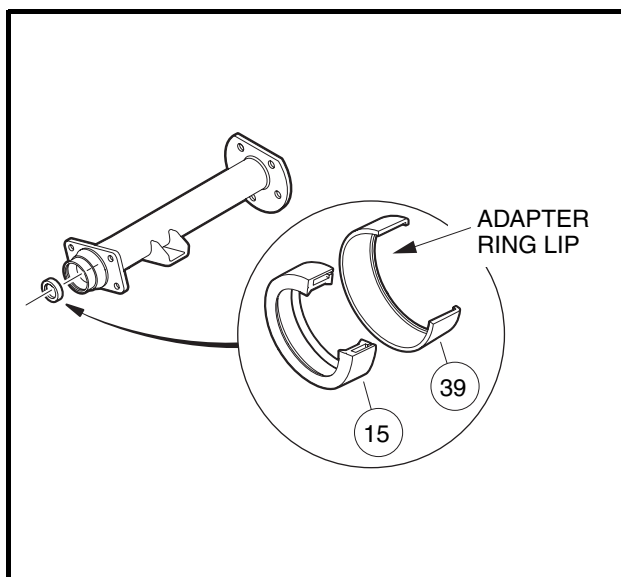

Figure 16-3 Axle Seal and Adapter Ring
- 6.2. Use a press to separate the axle oil seal (15) from the adapter ring (39) (**Figure 16-3, Page 16-2**). Retain the adapter ring and discard the oil seal.
- 1.1. Clean seal seat in the adapter ring (39) (**Figure 16-3, Page 16-2**).
- 1.2. Place a new seal (15) in the adapter ring with the seal lip facing toward the adapter ring lip (**Figure 16-3, Page 16-2**). Use an axle seal tool (CCI P/N 1014162) and mallet to tap it in until it seats firmly in position (**Figure 16-3, Page 16-2**). A hydraulic press may also be used with the axle seal tool.